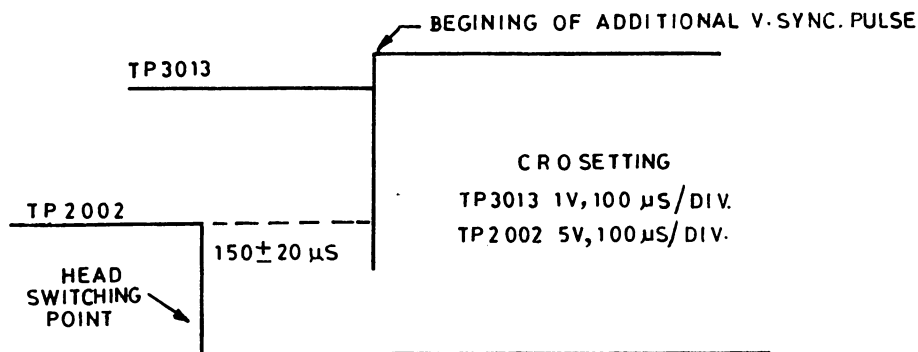

Fig. 11.12
5. Adjust R 2010 on the servo section so that the beginning of the additional V-Sync pulse is $150 \mu\text{sec} \pm 20 \mu\text{sec}$ after the head switching position as shown in fig. 11.12.